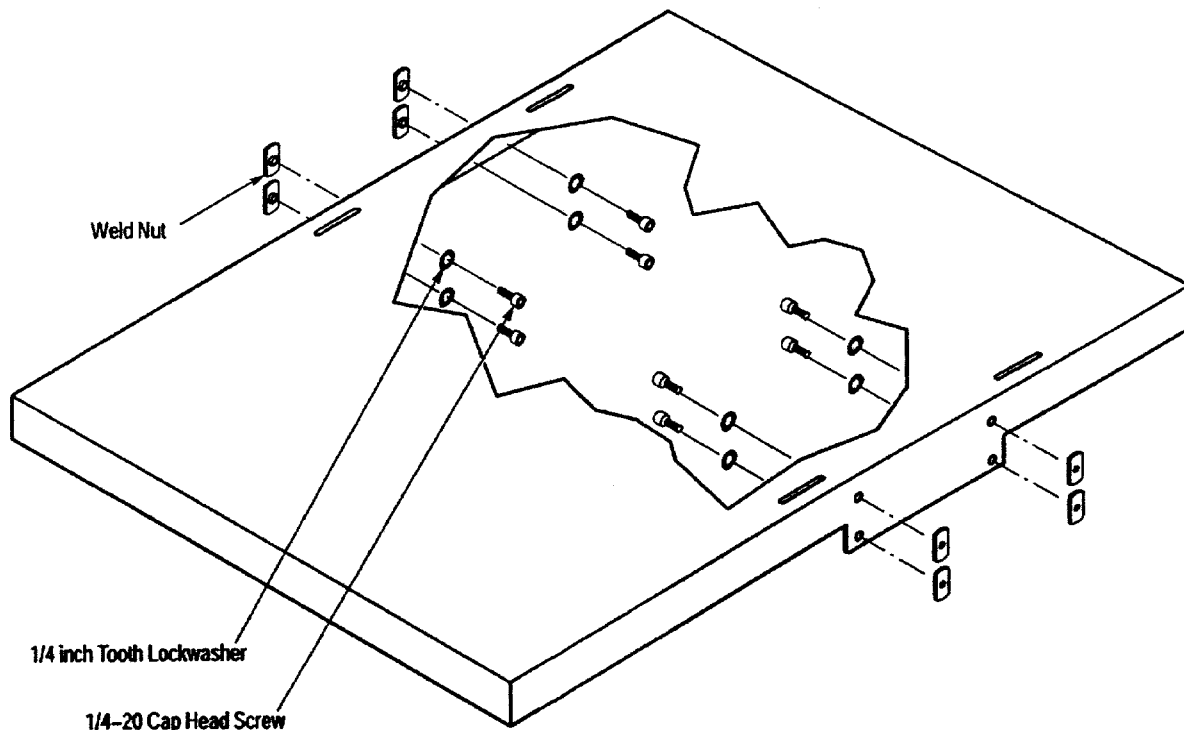

Figure 8: Preparing the Keyboard Shelf
1. Prepare the keyboard shelf as shown in Figure 8 by installing a cap head screw, a tooth lockwasher, and a weld nut in each of the eight side holes of the shelf. Leave each screw assembly loose; do not screw the weld nut onto the cap head screw more than one full turn.